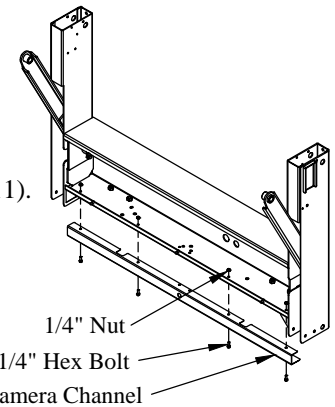

Figure 11: Back-up camera channel.
5. **Install** the camera channel on the bottom of the liftgate with four (4) 1/4" hex bolts and nuts (Figure 11).
8. **Install** the camera and bracket to the bottom of the liftgate, inside the camera channel, with two (2) 1/4" hex bolts and nuts (Figures 11 & 12).